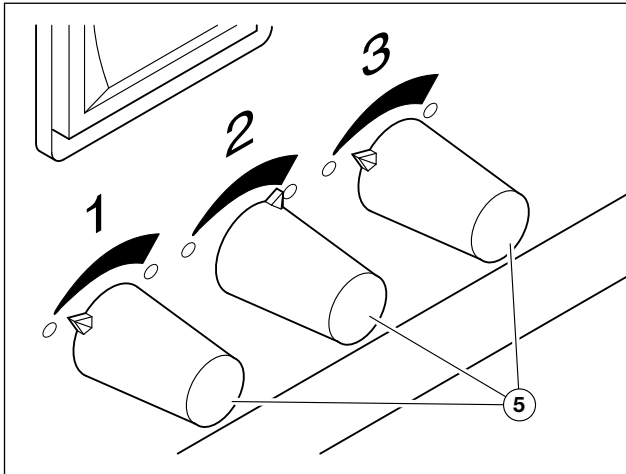

Fig. 4 Set powdering width
You can adjust the powdering width to the width of the printed sheet by completely closing the outer nozzle valve heads ⑤ (Fig. 4). If wide sheets are to be powdered all nozzles remain open. For powdering less wide sheets the outer nozzles can be closed. For this purpose the relevant nozzle valve heads ⑤ are turned completely to the left.